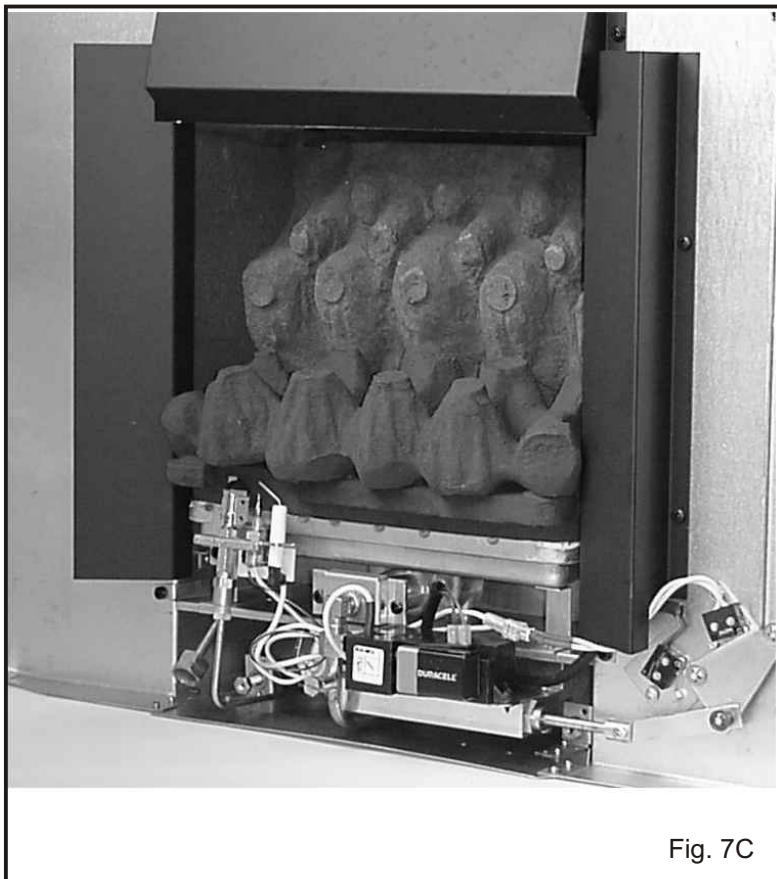

Fig. 7C
1. The underside of the coal bed has grooves matching the raised ports of the burner top. Fit the coal bed by placing it onto the burner. Take care to avoid damage as you insert it past the pilot burner (Refer to Fig. 7C). Ensure that it is correctly located in the burner tray by sliding it sideways and front to back.